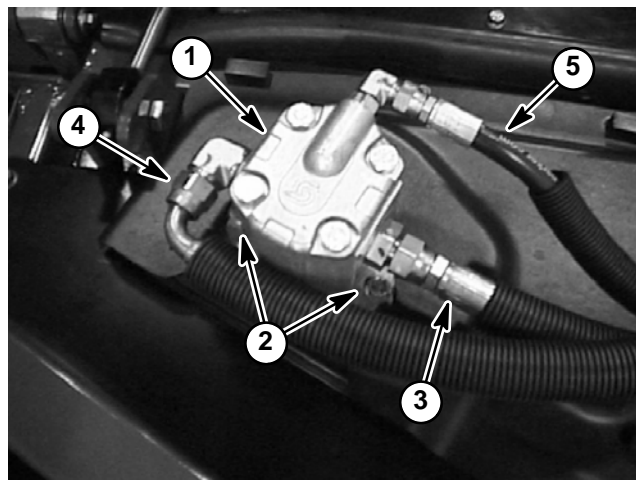

Figure 78
5. Remove two (2) flange head screws that secure hydraulic motor to motor mount (Fig. 78).
4. Secure motor to cutting deck with two (2) flange head screws (Fig. 78).